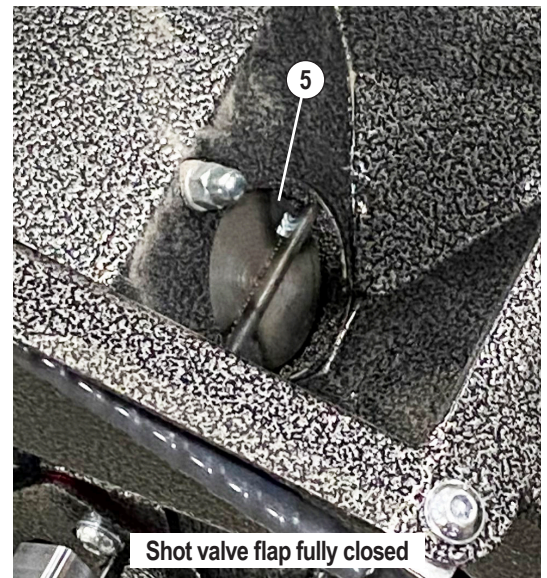

FIG. 7
1. Replace seal (9) if it is worn.
2. Place wheel hub (8) on motor shaft making sure it is properly aligned and fully seated.
3. Place blast wheel (7) through the housing opening and onto the wheel hub (8) aligning with the pins of the hub. Spin wheel to ensure it is properly seated on the pins and doesn't wobble.
4. Clean threads of motor shaft and blast wheel nut (6) removing any shot.
5. Fix the blast wheel (7) from rotating by pressing the shaft-locking button on motor (Figure 7).
6. Tighten the blast wheel nut (6) to secure the blast wheel. Spin wheel to ensure it doesn't wobble.
7. Reattach the front plate (5) with the nuts (4). Spin blast wheel to ensure it doesn't wobble.
8. Install the control cage (3). Spin blast wheel and listen for any grinding noises.
9. Tighten the cage clamps (2) to secure the control cage (3). Make sure the blast wheel can rotate freely.
10. Install the feed spout (1).
11. Adjust the control cage (3) to achieve an even blast pattern.